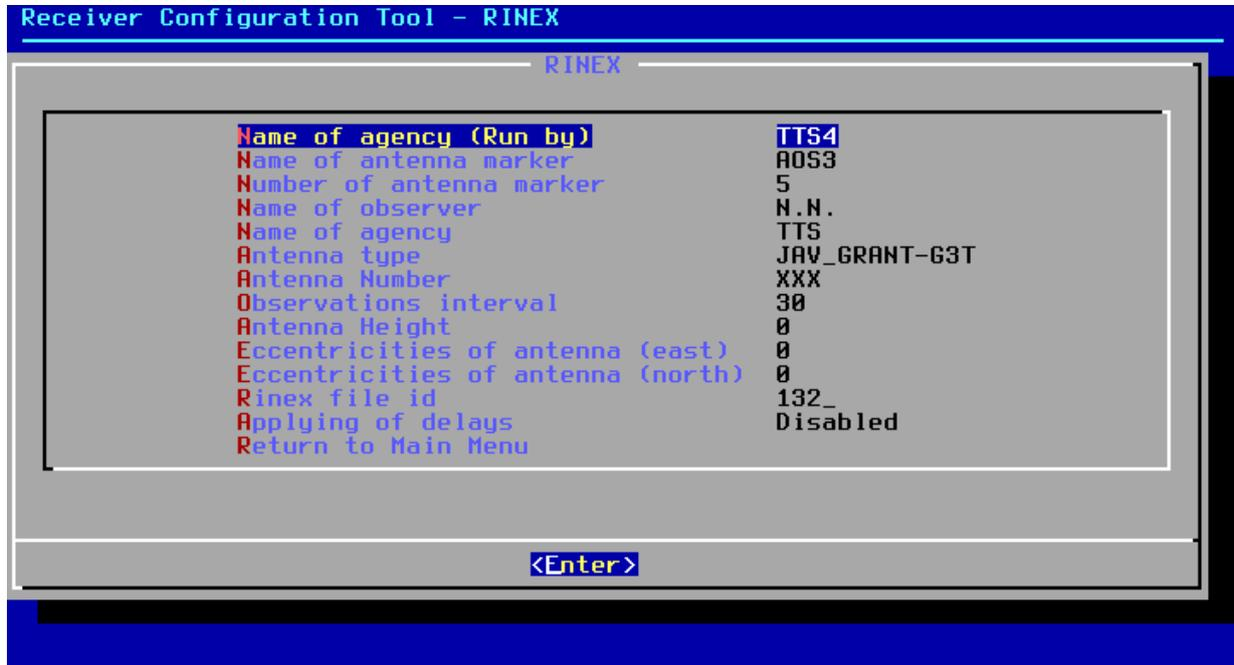

Figure 24: RINEX section.
3. select RINEX Section, end enter the following parameters (fig. 24):